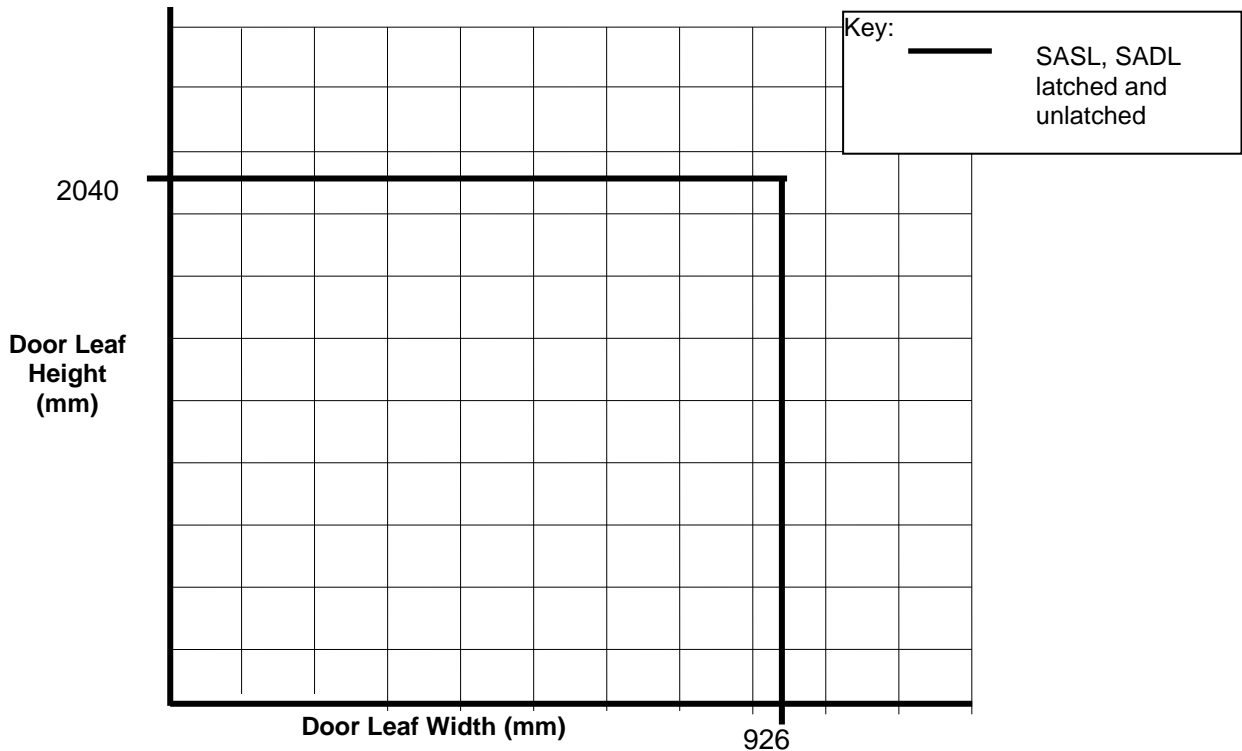

Figure 1. Maximum Permitted Door Leaf Dimensions
6. This approval is applicable to single-acting, single and double-leaf, latched and unlatched ITT doorsets at leaf dimensions up to those given in Table 1 and Figure 1.
Note: Maximum permitted values at dimensions greater than specified on the headings may be determined graphically by linear interpolation (see Figure1) between the two data points for each configuration. Under no circumstances must either the maximum height or maximum width be exceeded without separate CERTIFIRE approval.
This leaf may be used in single-acting, single or double-leaf, latched and unlatched ITT doorsets at leaf dimensions up to those given in Figure 1. Double-leaf doorsets including unequal sized door leaves are permitted on the assumption that the smaller leaf is no less than 30 % of the width of the larger leaf.